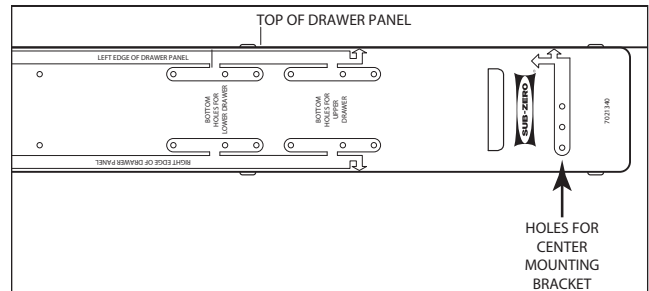

Figure 2.
- 5 Position template to mark location of center mounting bracket holes (See Figure 2). Then drill pilot holes and install panel mounting center bracket using three #8 x 1/2" screws (provided) to the back of panel. Now, using the panel mounting center bracket, drill pilot holes at other side of bracket and install three #8 x 1/2" screws.